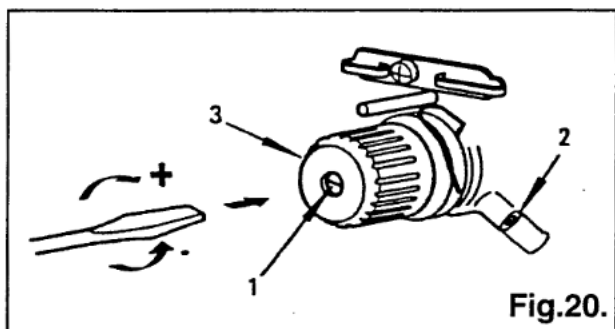

Fig.20.
Using a screwdriver in slot of stud (1), Fig.20, regulate take-up spring tension by turning stud (1), as required.
To adjust the amount of take-up spring movement, loosen screw (2), Fig.20, and set take-up spring height by turning the entire tension assembly (3) toward left or right, as required. Securely tighten screw (2).